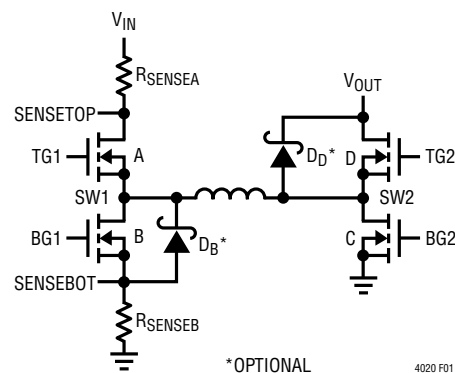

Figure 1. Converter Switch Diagram
As shown in Figure 1, when  $V_{IN}$  is higher than  $V_{OUT}$  during step-down (buck) operation, switches A (driven by pin TG1) and B (driven by pin BG1) perform the PWM required for accommodating power conversion. Ideally, switch D (driven by pin TG2) would conduct continuously and switch C (driven by pin BG2) would stay off, making PWM switching action much like that in a synchronous buck topology. Switch D uses a bootstrapped driver, however, so switch C conducts for a minimum on time of 150ns each cycle to refresh the driver and switch D is disabled to accommodate this refresh time. A 75ns non-overlap period, separates the conduction of the two switches, preventing shoot-through currents.
Figure 1 shows a simplified diagram of the four power switches and their connections to the IC, inductor,  $V_{IN}$ ,  $V_{OUT}$ , ground, and current sense elements.
The LTC4020 performs inductor current sensing via two resistors connected in series with the  $V_{IN}$  side switches (see Figure 1). The high side sense resistor ( $R_{SENSEA}$ ) is connected between  $V_{IN}$  and the drain of the top side switch FET (A). Both nodes on the sense resistor must be Kelvin connected to the IC via the pins SENSVIN and SENSTOP. Likewise, the low side sense resistor ( $R_{SENSEB}$ ) is connected between the source of the bottom side switch FET (B) and